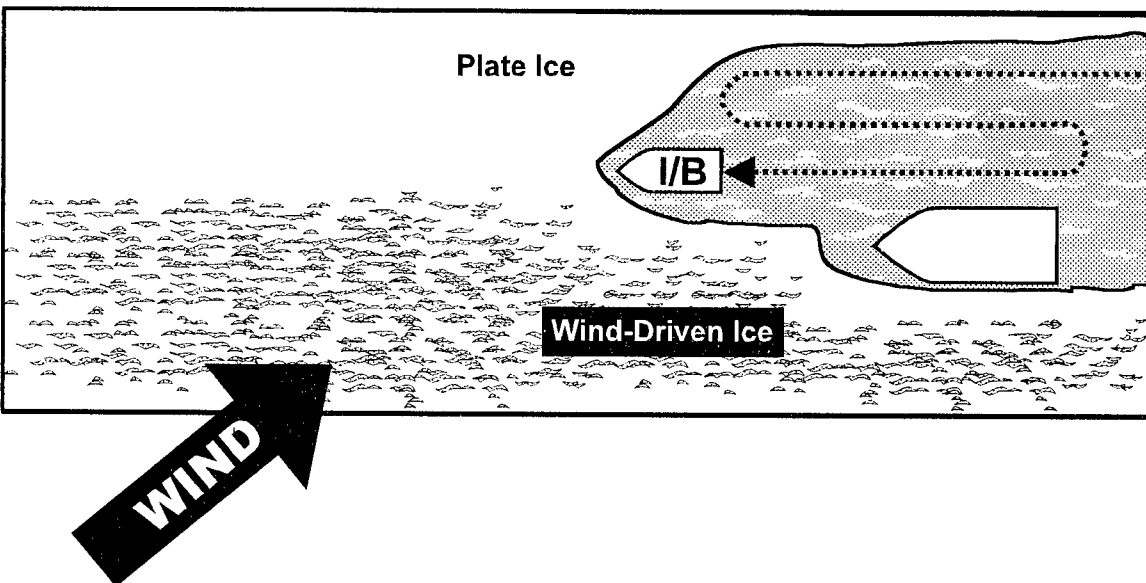

Figure 6-3 Escorting Vessels in Wind-Driven Ice
5. Vessels with Large Sail Area. When there are high winds, light tows and bulk carriers have difficulty maneuvering in the ice because of their large sail area. Also their lack of ballast often results in the screw and rudder being partially out of the water, further reducing usable horsepower and limiting maneuverability. Vessels being assisted in the ice should be asked to ballast down to as near a normal trim as possible. This will increase their efficiency in the ice. The added ballast will also help them to transit short stretches of ice of varying thicknesses. When escorting a vessel through wind-driven ice you may have to make several parallel tracks leeward of the main ice sheet. The ice from the windward track, which should blow faster than the main ice sheet, has somewhere to go. This will relieve the pressure for the escorted vessel (See **Figure 6-3.**)